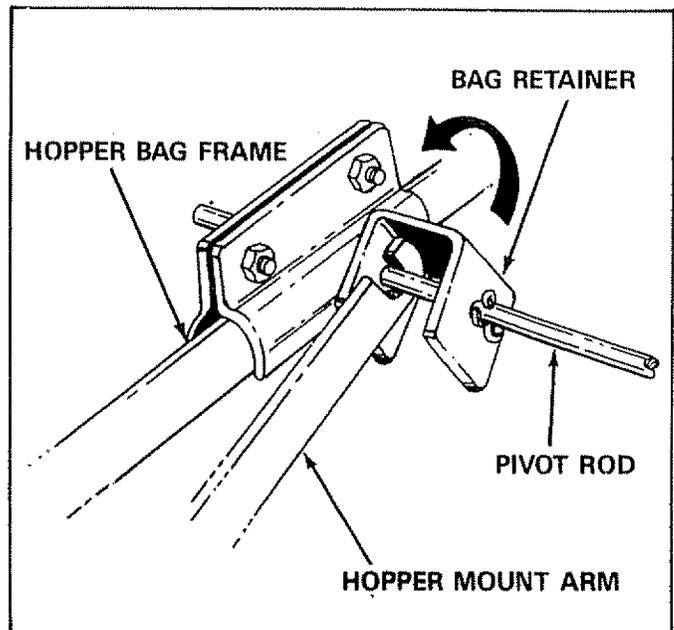

FIGURE 25
17. To assemble the hopper bag frame to the sweeper, simply hook the pivot rod into the notches in mounting arms. Bag retainers must pivot freely to lock in position. See figure 25.
18. To remove the hopper bag frame from the sweeper, simply lift up on the bag retainers and lift off hopper bag. See figure 25